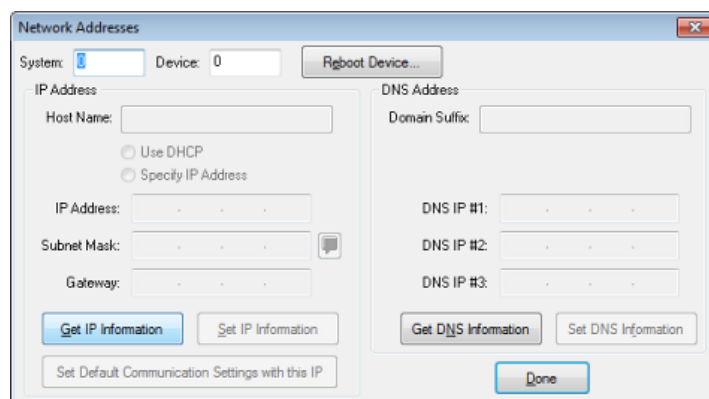

FIG. 8 Network Addresses dialog
- Select **Diagnostics > Network Addresses** from the menu bar to open the *Network Addresses* dialog (FIG. 8). Use the options in this dialog to select to either use DHCP or specify an IP address.